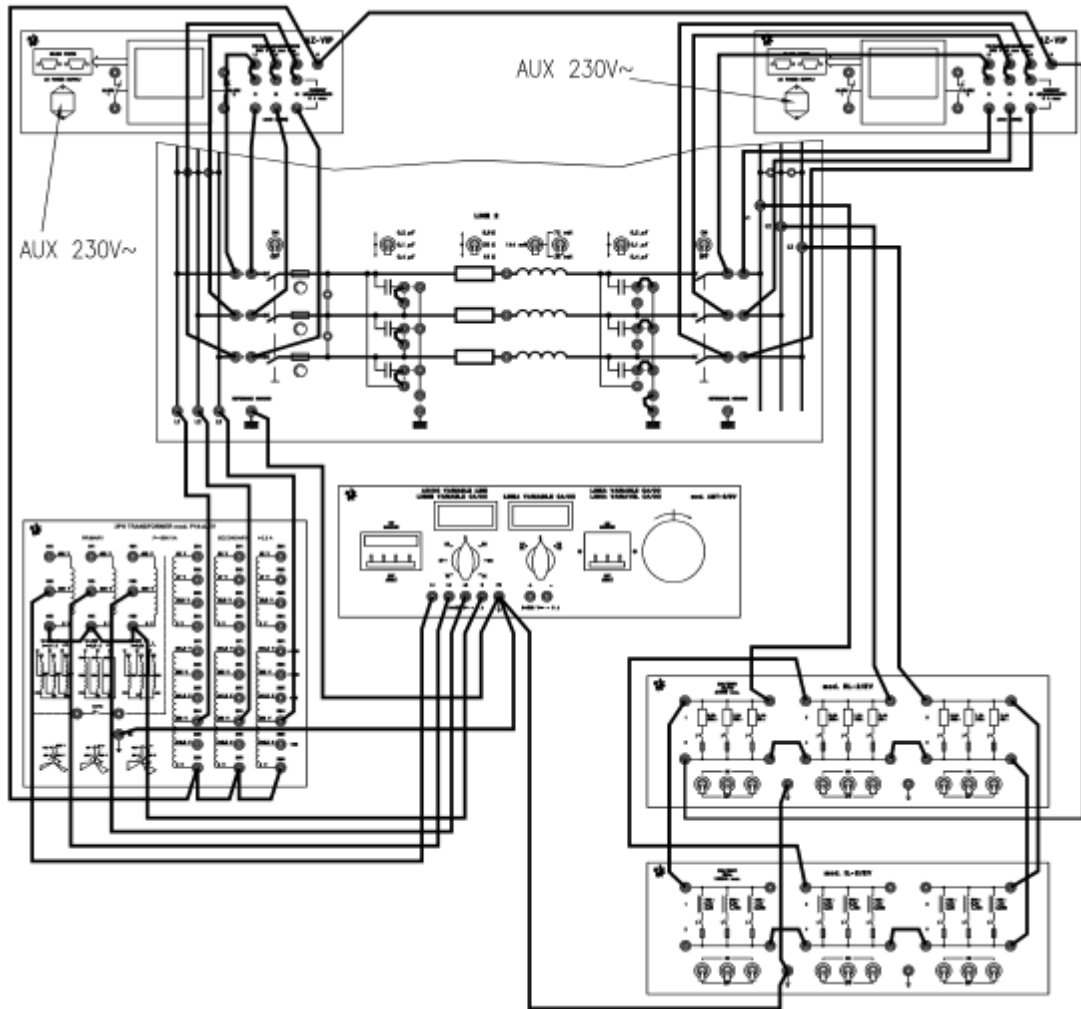

Figure 4
- The reference electric diagram, the connections and configuration of the line are respectively shown in the figure 4.